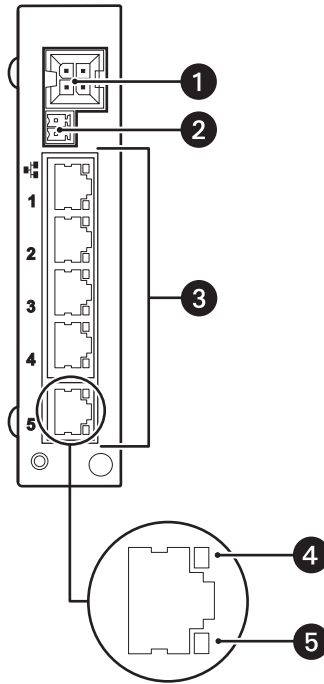

Figure 3. Rear Panel of SX8205R Module
Figure 3 illustrates the rear panel of the SX8205R module.
- LED indicators on the rear panel (refer to Figure 3) allow you to monitor RJ-45 10BASE-T/100BASE-TX port status. Refer to Table C for information about the rear-panel indicators and associated troubleshooting guidelines.